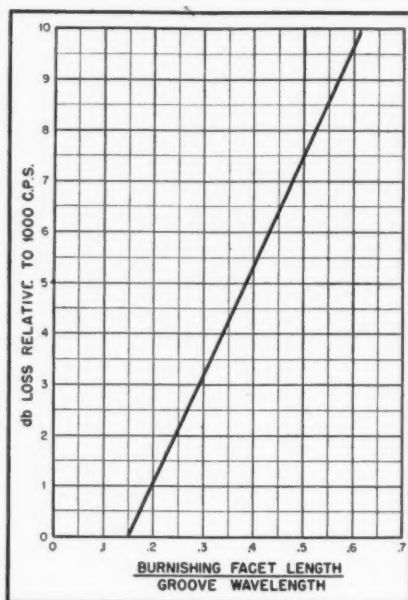

Fig. 2. Generalized effect of burnishing facet length.
Fig. 2(B) When used under pressure, diaphragm is pushed inward, providing contact on only a portion of the crystal surface. (A) Pressure behind the crystal bulges diaphragm outward, provides contact only on corners.
We have used the generalized solution given by the above reference—a graph showing the relation between the fraction: burnish length/wavelength, and the attenuation in recording. We have taken the liberty of continuing the main trend for a db further than the reference has, for reasons that will be evident on inspection of his data. This slightly modified graph appears as Fig. 2.